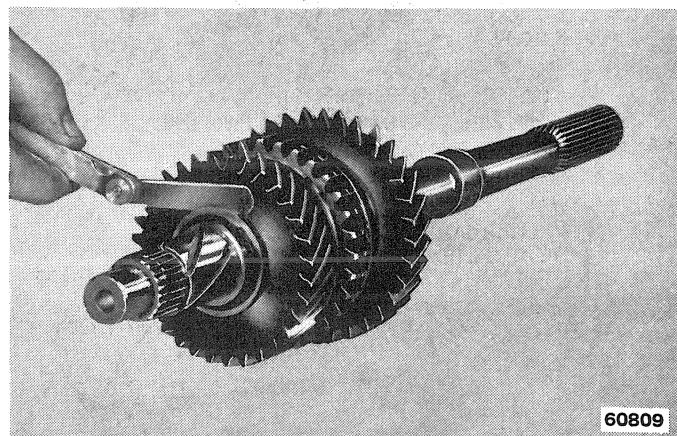

Fig. 2B-15 Measuring Second Gear End Play
(6) Place blocking ring on second gear and install gear and ring on output shaft. Be sure synchronizer inserts engage notches in second gear blocking ring.
(7) Install second gear thrust washer and snap ring on output shaft. Be sure sharp edge of washer faces outward and that tab is engaged in output shaft notch.
(8) Measure second gear end play using feeler gauge (fig. 2B-15). Insert gauge between gear and thrust washer. End play should be 0.004 to 0.014 inch (0.10 to 0.35 mm). If end play is over 0.014 inch (0.35 mm), replace thrust washer and snap ring and inspect synchronizer hub for excessive wear on thrust faces.